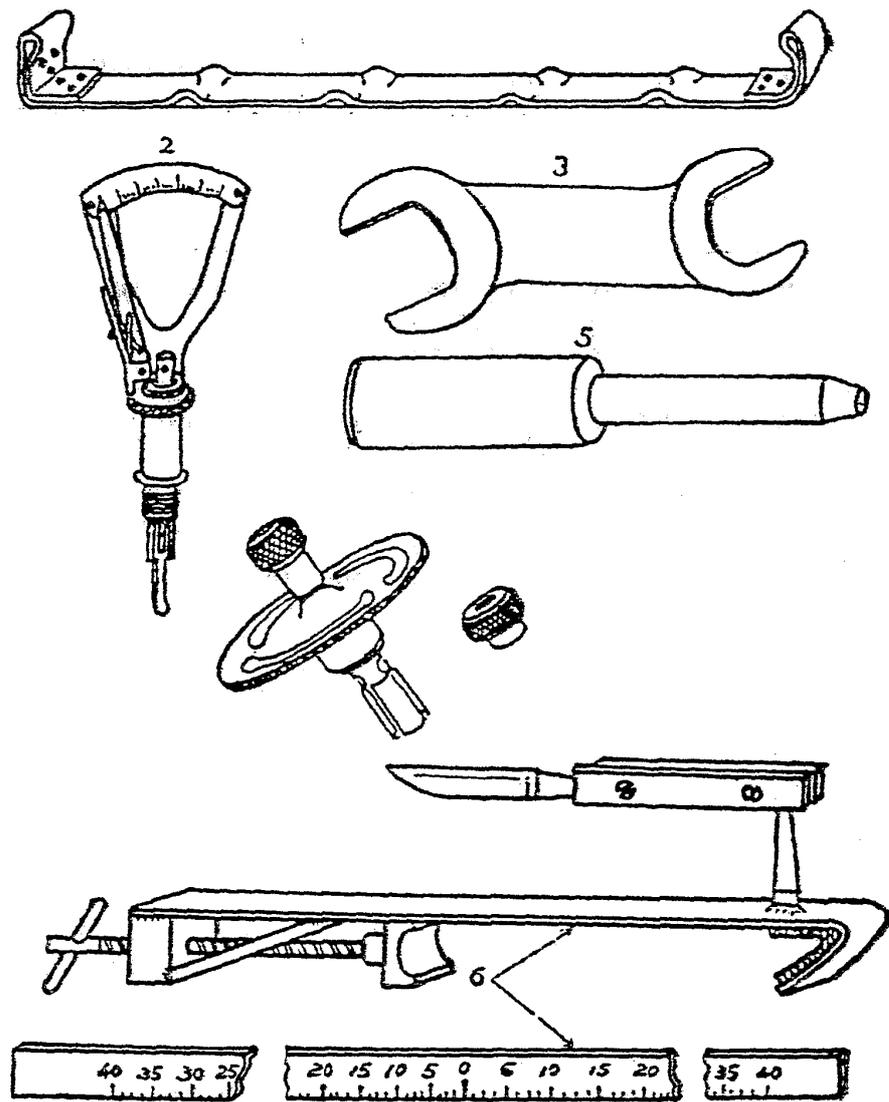

Fig. 19 Tools for periodic inspection
4. Tools for periodic inspection which contains board tools, special tools and the following several special tools (Fig. 19)